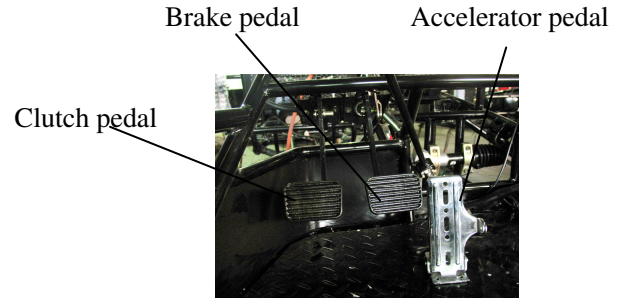

Fig 6
(4) Brake pedal (Fig 6)
(5) Clutch pedal (Fig 6)
(6) Accelerator pedal (Fig 6)